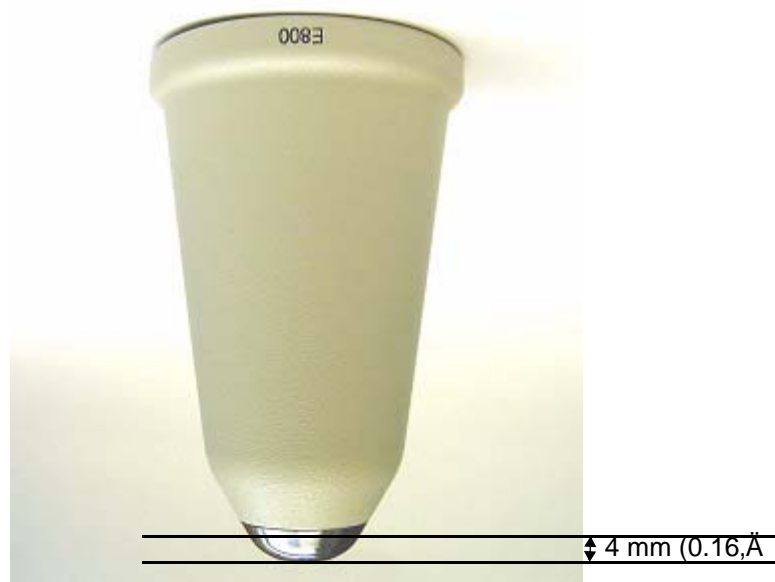

Figure 46 Inverted lens piece showing permissible depth of immersion
Caution: Never immerse the entire lens piece or handpiece in any liquid solution. If necessary, only the distal 4 mm can be immersed. See Figure 46.
**Note: Permissible immersion depth is illustrated in Figure 46 below. It is important not to immerse the joint where the polished metal tip meets the painted housing, since it is susceptible to corrosion.**